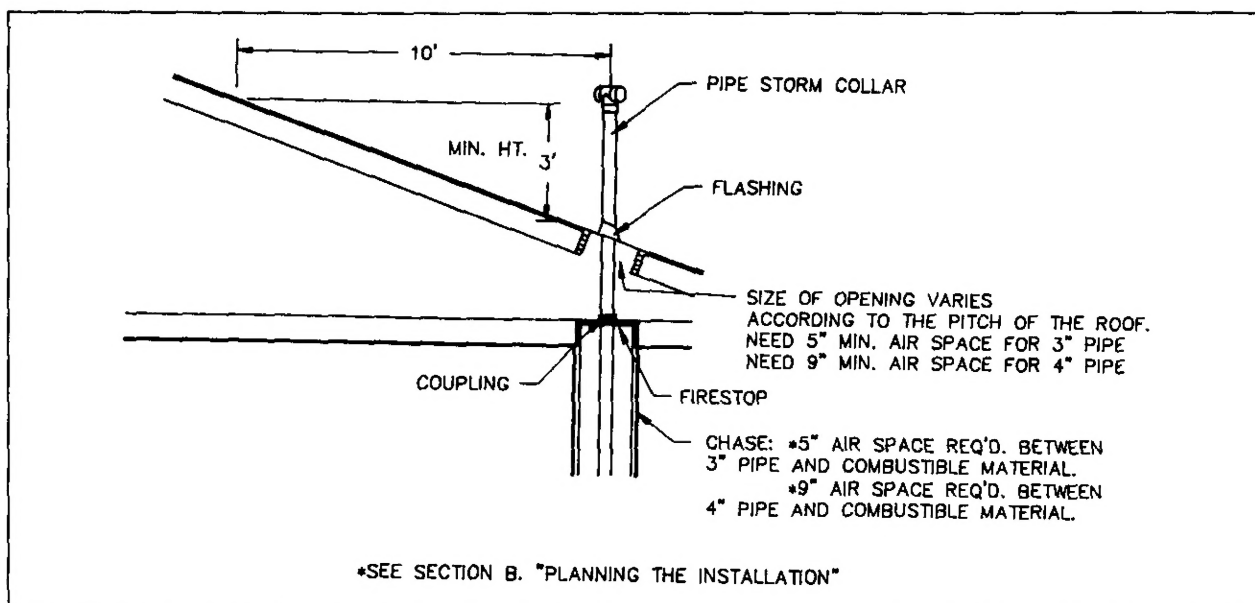

Figure 8
**NOTE:** Terminating vent system with other than terminating tee can cause improper furnace operation. See Figure 8 for proper vertical vent termination.